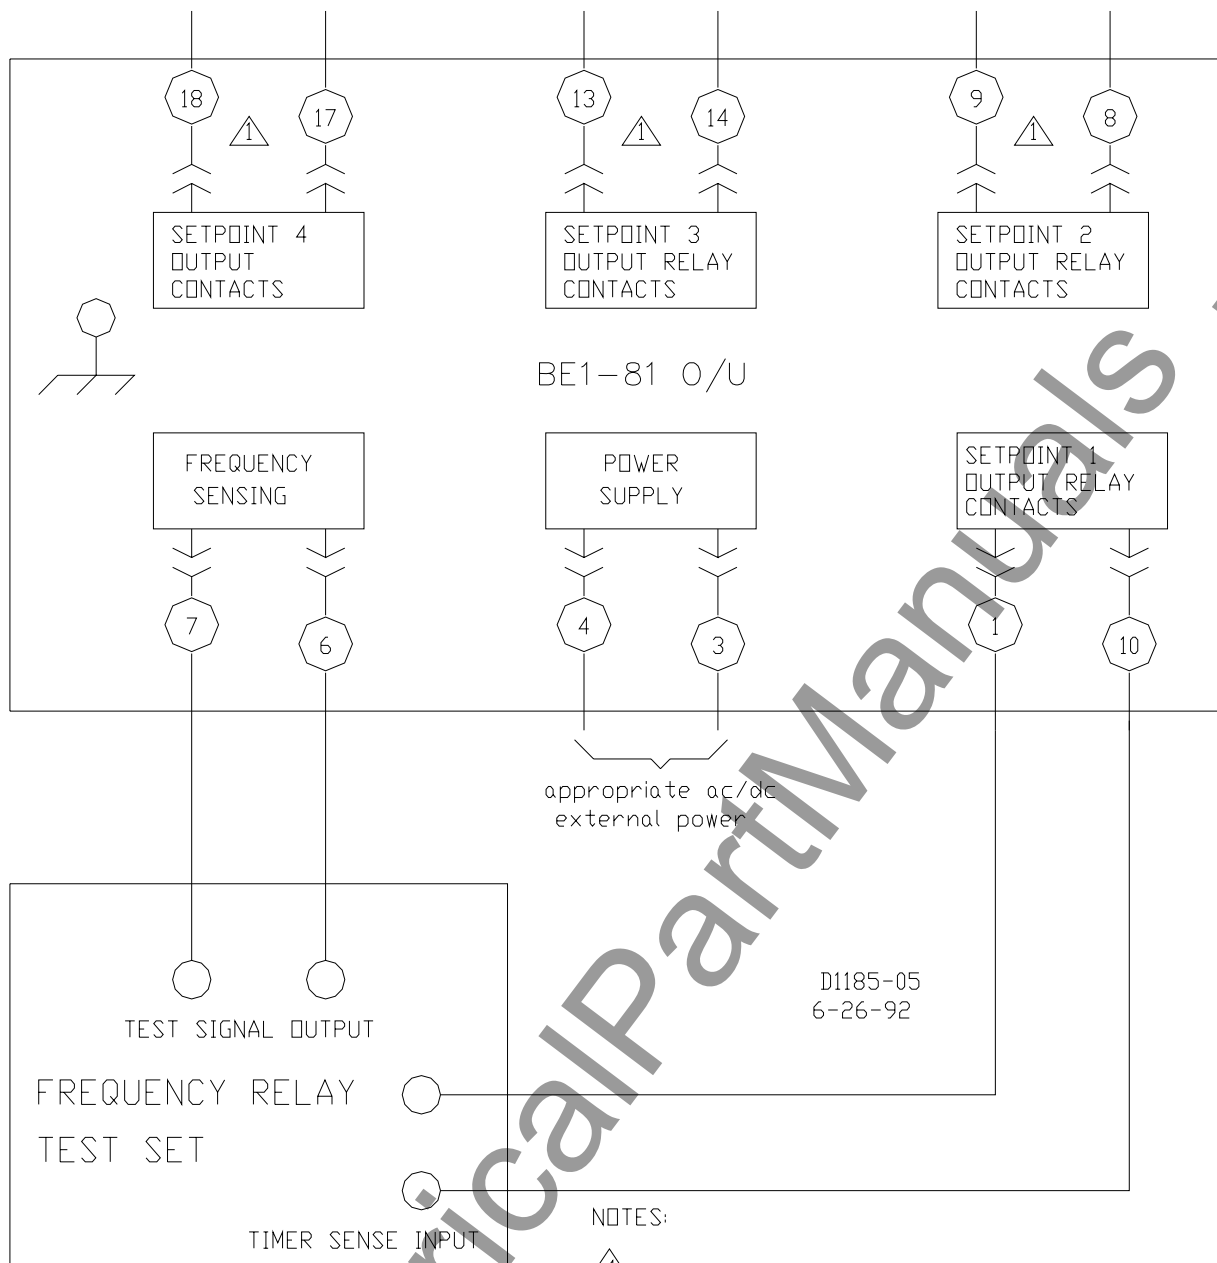

Figure 5-1. BE1-81O/U Test Setup
Minimum test equipment requirements are listed below. Test connections are shown in Figure 5-1.
1. Connect the relay as shown in Figure 5-1.